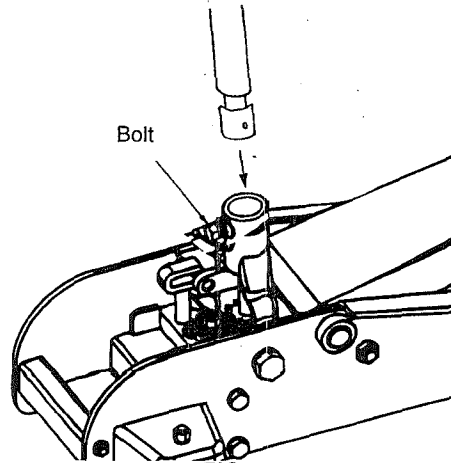

FIG.2
1. Insert the handle into the socket. (see fig. 2)